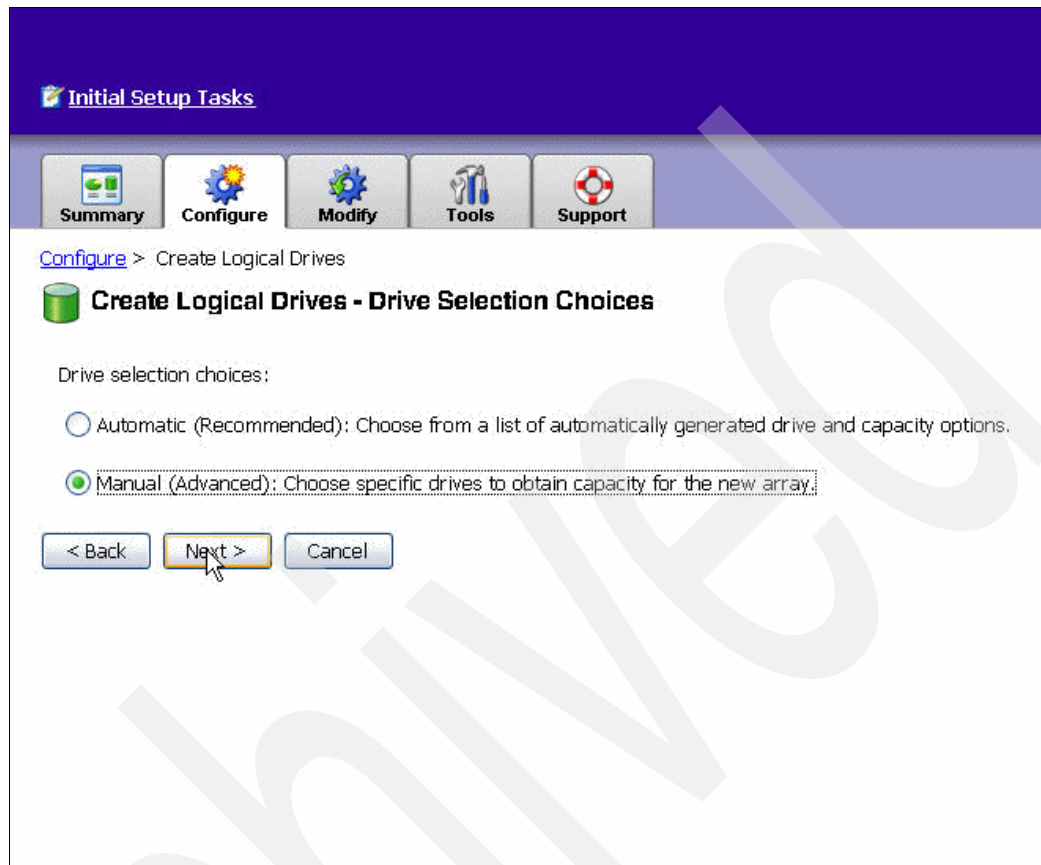

Figure 7-27 Manual drive choice selected
2. In the Create Logical Drives - Drive Selection Choices window (Figure 7-27) we select **Manual (Advanced)** and click **Next**.